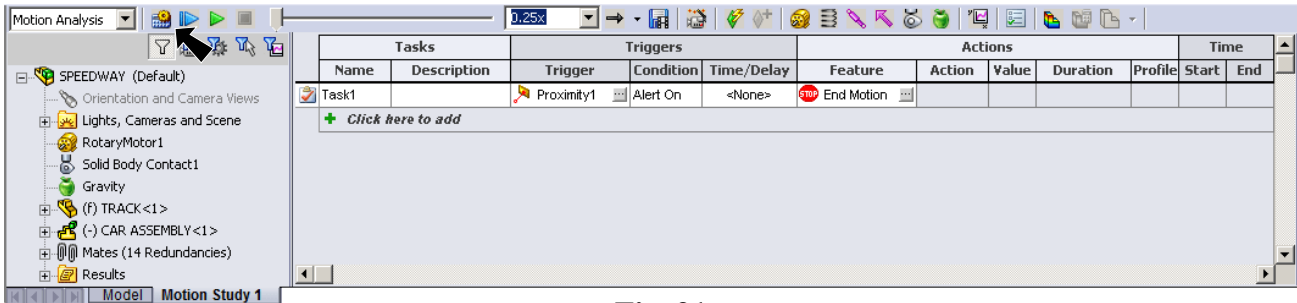

Fig. 21
Step 5. Click Zoom to Fit  (F) on the View toolbar.
Step 6. Click Calculate  and Play from Start  on the Motion Manager toolbar, Fig. 21. The Motion Study will stop when Car "trips" the sensor.